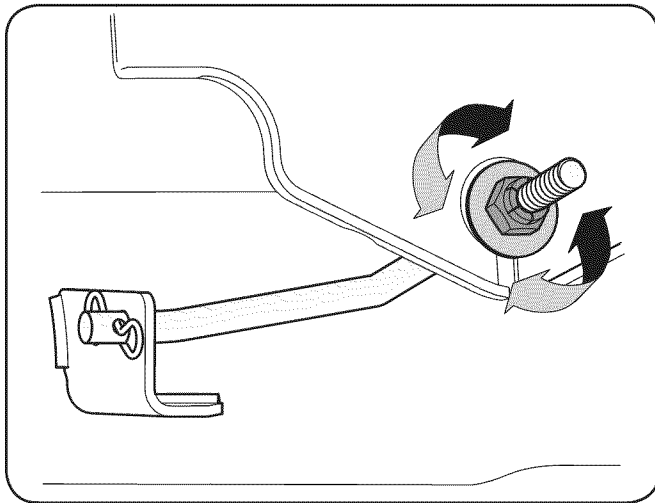

Figure 6-4
- On some models:** Locate the jam nut and lock nut on the front side of the stabilizer bracket. Others have just a flange nut as seen in Figure 6-4.